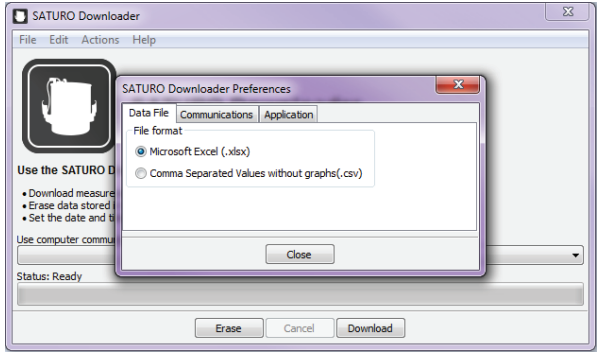

Figure 10 Change file type
3. Select the file type by selecting **Edit > Preferences > Data File** and choosing the appropriate file type (Figure 10).